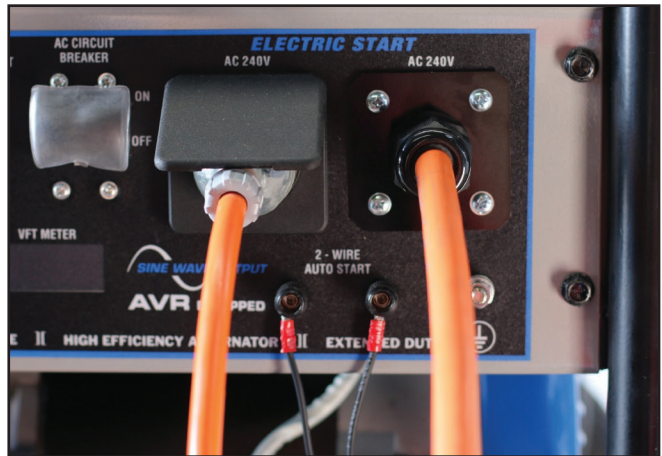

Figure S10 – 240 Volt AC Detachable Plug & Socket Connection (Left) and Direct Connection (Right)
11. Reconnect the generator's battery cables to the battery starting with the positive (+) cable first. Re-attach the spark plug boot to the spark plug. Plug in any electrical cord or appliance to the left-hand-side 240-Volt AC socket and also to the 12-Volt DC socket, as required (see Figure S10).